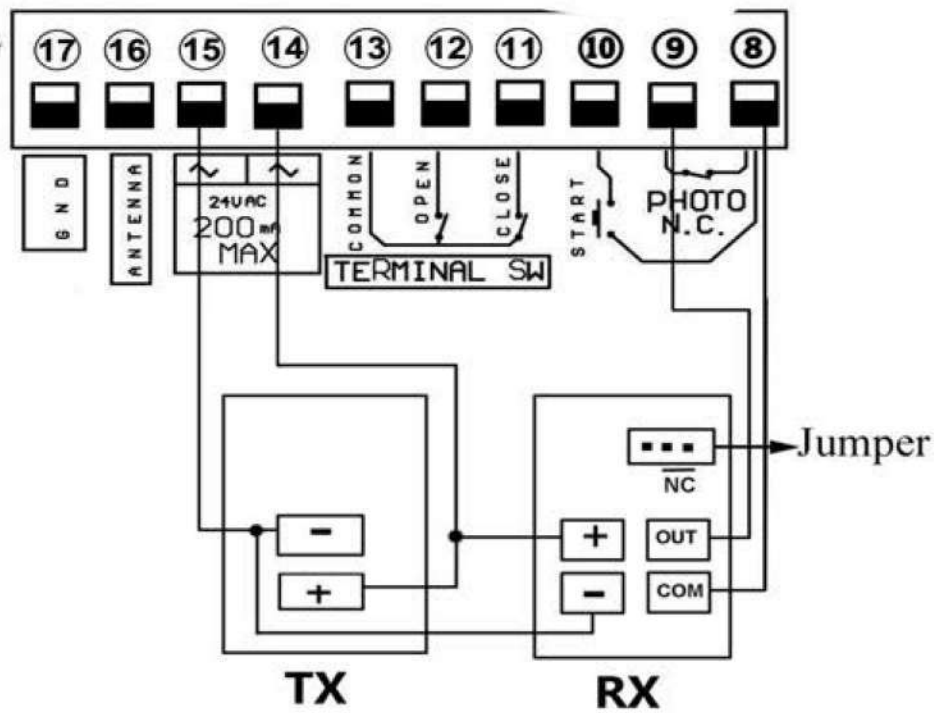

Fig 10
6.4. Connect to infrared sensor.(Please see Fig 10)
Please note:220VAC sliding gate control board is designed to connect NC model of photocell, So please keep the jumper on the NC ,as picture Fig 10 shows!